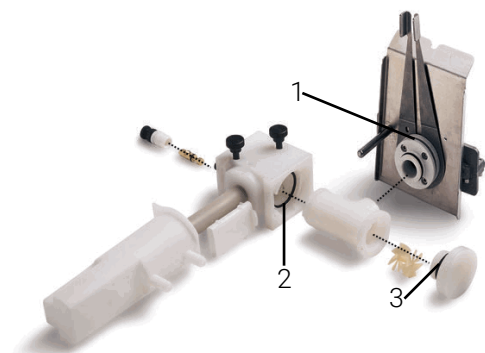

Figure 4. Disassembled spray chamber and burner where:
- Three o-rings inside the burner, spray chamber, and the bung (see Figure 4)